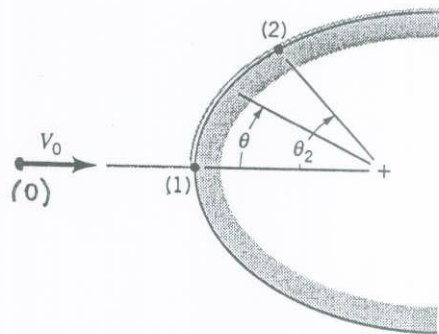

FIGURE P3.26
3.26 An inviscid fluid flows steadily along the stagnation streamline shown in Fig. P3.26 and Video V3.7 starting with speed  $V_0$  far upstream of the object. Upon leaving the stagnation point, point (1), the fluid speed along the surface of the object is assumed to be given by  $V = 2V_0 \sin \theta$ , where  $\theta$  is the angle indicated. At what angular position,  $\theta_2$ , should a hole be drilled to give a pressure difference of  $p_1 - p_2 = \rho V_0^2 / 2$ ? Gravity is negligible.